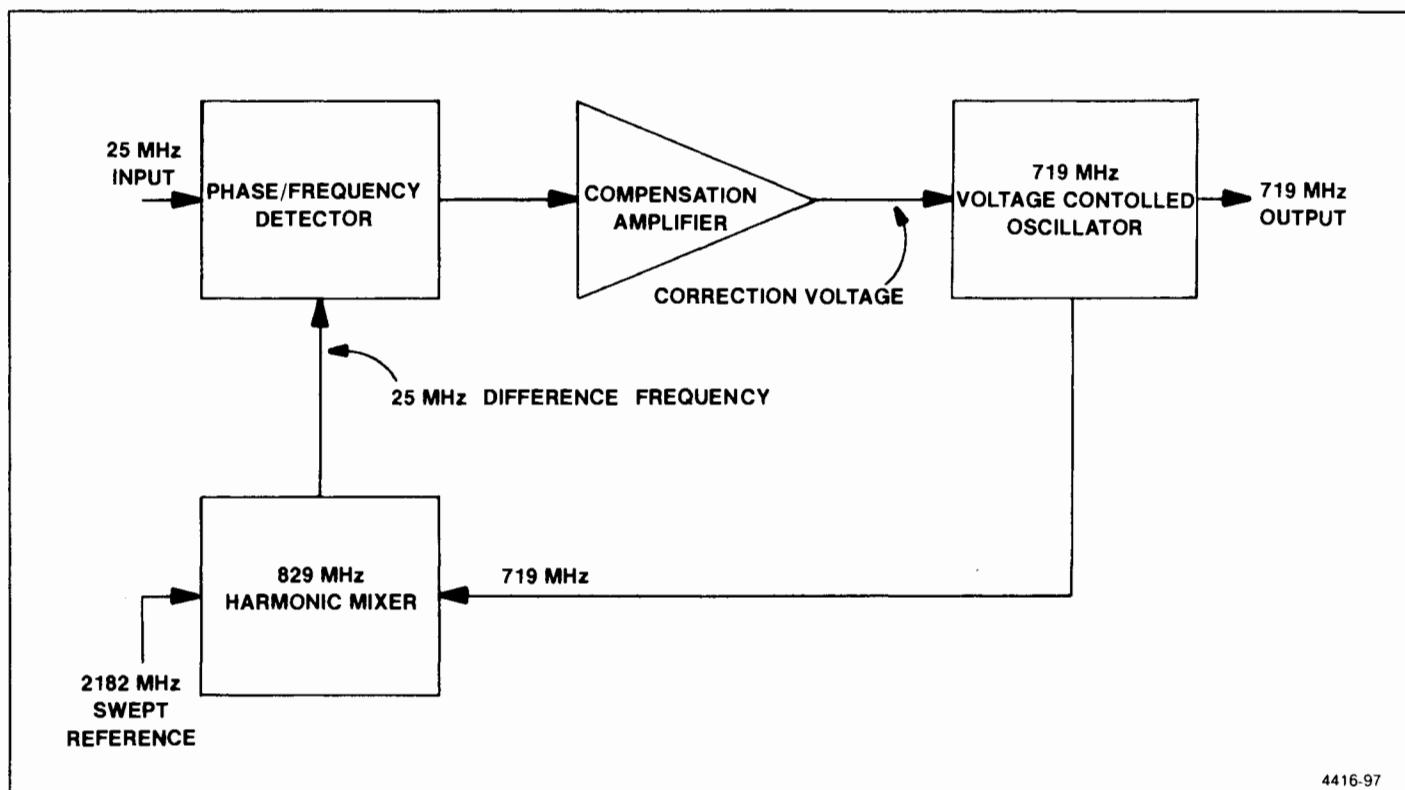

Figure 7-6. Block diagram of the phase lock loop in the 829 MHz 2nd Converter.
**Phase Lock Circuit.** The phase lock circuit receives reference frequency inputs and uses phase/frequency detection techniques to use those signals in controlling the output frequency of the 719 MHz oscillator. The circuit consists of a voltage controlled oscillator (VCO), a phase/frequency detector, a harmonic mixer, and various amplification stages and power splitters. When the 719 MHz LO is enabled, the 2182 MHz LO output frequency is used as a swept reference to derive the 719 MHz frequency. The VCO is controlled so that the third harmonic of its output frequency is a constant difference from the 2182 MHz reference. This control is accomplished by the phase lock loop. Refer to Figure 7-6 for a simplified block diagram.